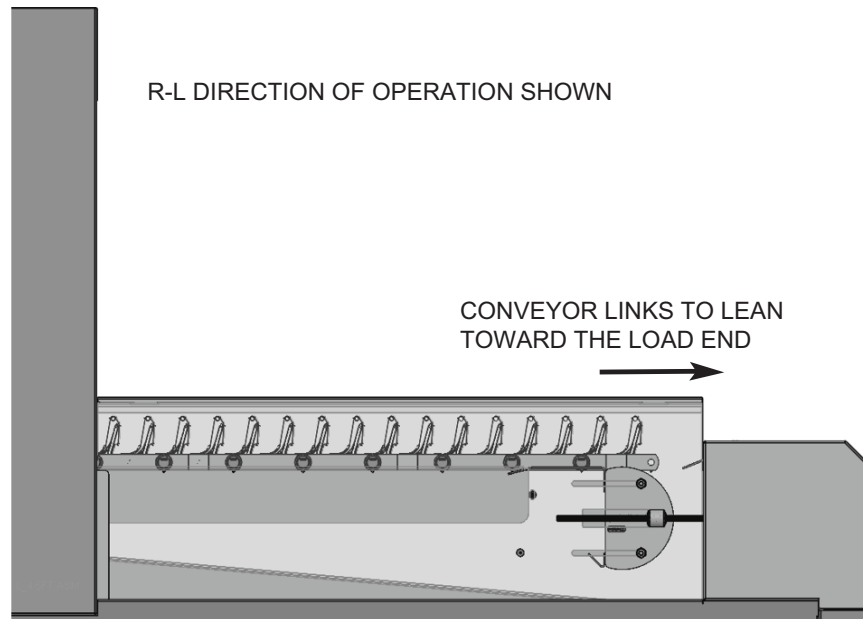

Fig. 40
- Position the first section of conveyor in line with the machine at the load end. The flight links must lean towards the load end of the machine (Fig. 40).